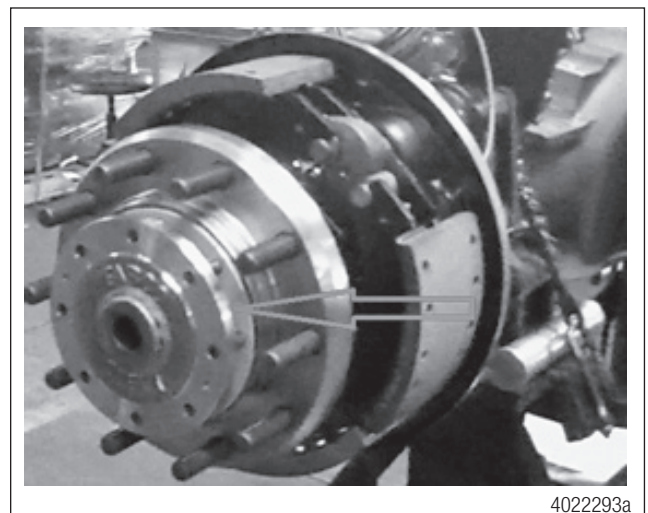

Figure 12
7. Remove the drive flange. If it is not loose enough to remove by hand, install two 3/8"-16 bolts in the extractor holes to loosen the drive flange and then remove it. Figure 12.